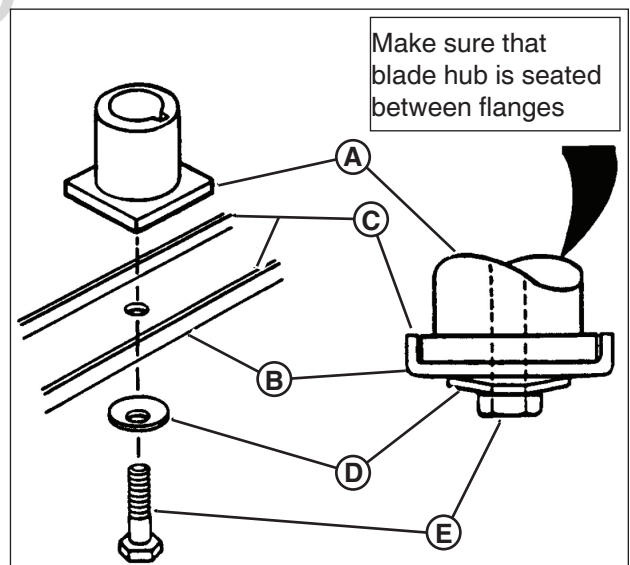

Figure 20: Removing the mower blade
3. Remove the blade (**B, Figure 20**).
- Reinstall blade (**B**, **Figure 20**). Note the correct assembly order:
- (A) Blade hub
- (B) Blade
- (C) Blade flange (facing up)
- (D) Cone washer (concave side up)
- (E) Capscrew